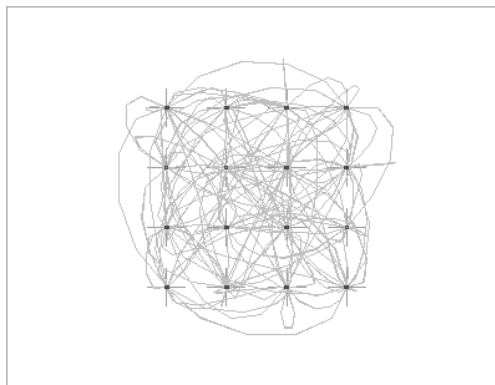

Figure 60: Agilent 89441A VSA demodulation of QAM 16.
Figure 60 shows an example demodulation of QAM 16 for an SG394 with the following setup:
-25 dB of AWGN is enough noise to create an error vector magnitude (EVM) of about 5.6 %. Compare the sharp constellation points of Figure 60 to those of Figure 66. The noise degradation is quite visible in the figure.